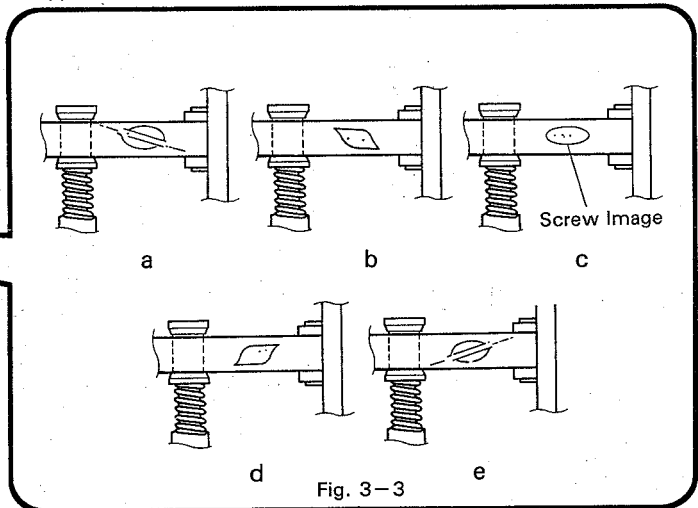

Fig. 3-3
1. Play the tape and set the CUE mode by holding down the FF/CUE key when the tape starts winding. Check for twisting of the tape between the pinch roller and the pull guide by observing the image of the motor bracket setscrew head reflected on the magnetic surface of the tape. The relationship between the reflected image of the screw head and the height of the pull-guide flange is shown in Fig. 3-3.